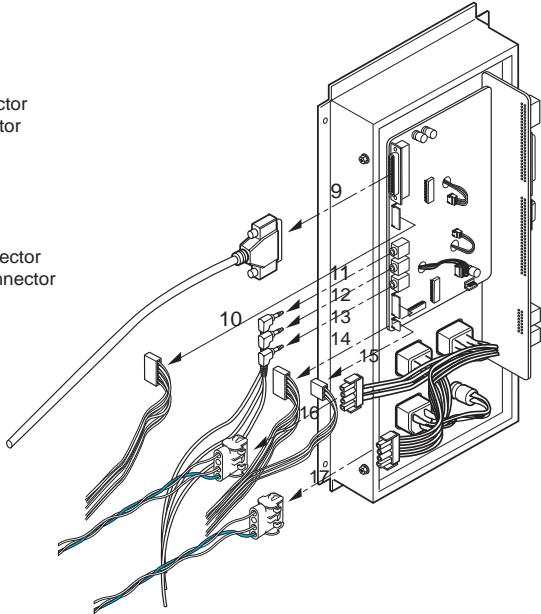

Figure 8-70 Disconnecting 9 connectors
- 8.) Disconnect 9 connectors (9-17) from the right side of the Panel. Refer to Figure 8-70.